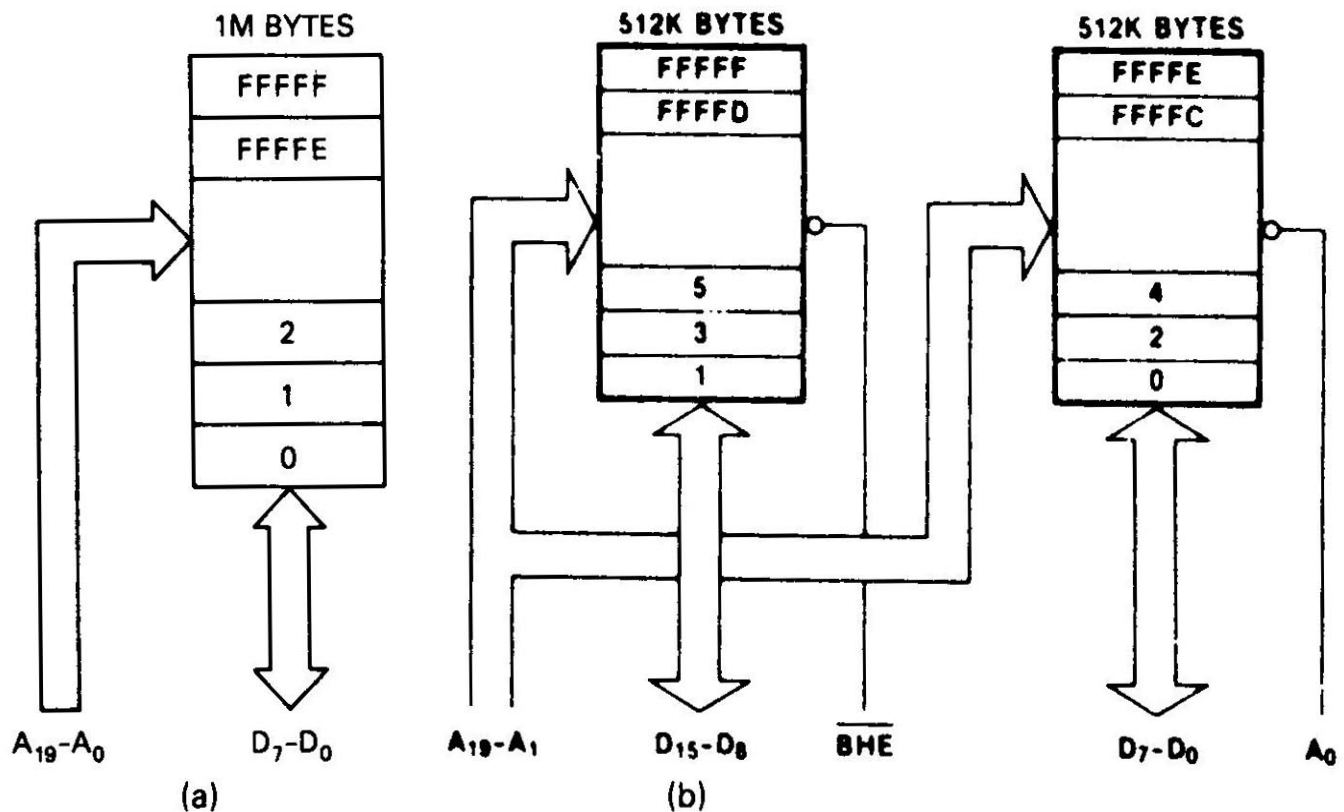

Figure 8-15 (a) Logical memory organization, and (b) Physical memory organization (high and low memory banks) of the 8086 microprocessor.
- The memory address space of the 8086-based microcomputers has different logical and physical **organizations** (see **Fig. 8-15**).